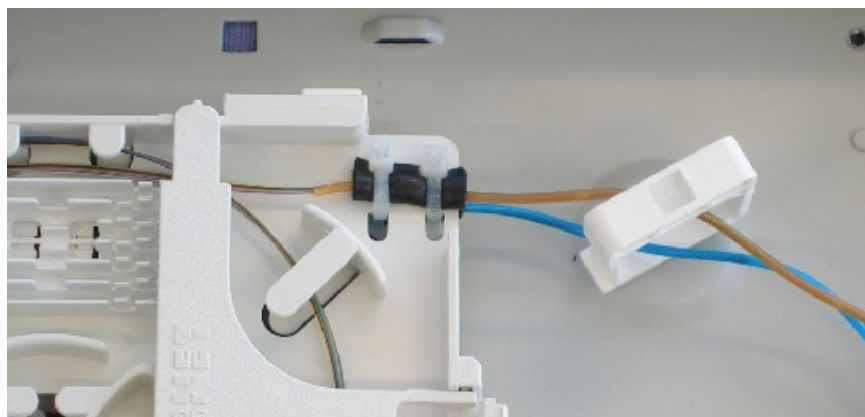

Figure 11. Loose tubes secured onto splice tray using two cable ties
- b) Using two cable ties supplied, secure the loose tubes onto the splice trays, see Figure 11.